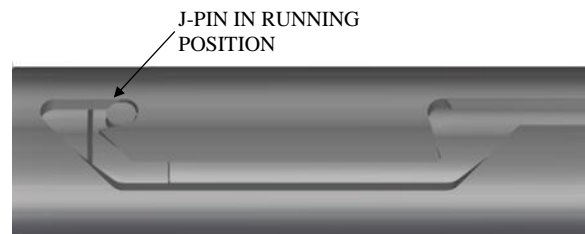

Fig. 6
L-2.17) Position J-pin of J-pin bottom sub (23) in running position in J-slot of J-body (20) (Fig. 6).